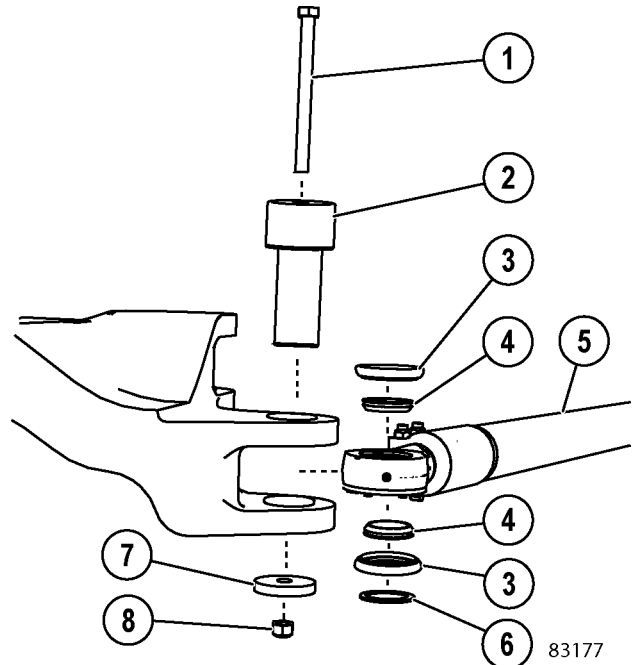

FIGURE 3-12. TIE ROD INSTALLATION (TYPICAL)
4. Remove locknuts (8, Figure 3-12), retainers (7), and cap screws (1) from both ends of the tie rod.
5. Remove pins (2) from each end of the tie rod and move them to a clean work area. Bearing spacers (4) will be free when the pin is removed. **Ensure the bearing spacers do not drop out and become damaged when removing the pin.**
7. Remove seals (3), spacers (4) and washer (6).
1. The tie rod (5, Figure 3-12) weighs approximately 165 kg (364 lb). Use a suitable lifting device to lift the tie into position on the truck.
2. Align bearing spacers (4), seals (3) and washers (6) with the pin bores on both steering arms.
3. Install pins (2), cap screws (1) and retainers (7) and secure with locknuts (8).
4. Tighten both locknuts (8) to **1 017 ± 102 N·m (750 ± 75 ft lb)**.